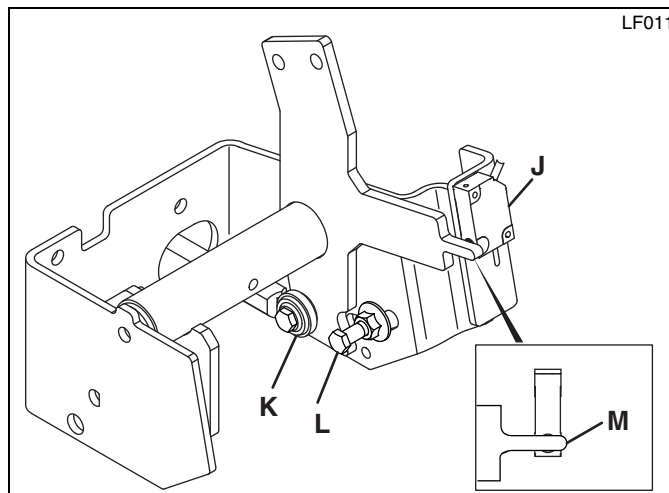

Figure 3K
4. Engage parking brake and set mow switch to neutral. Make sure neutral switch at traction pedal is closed. (Figure 3K - **M**). Distance between the switch and metal pointer "M" must be between 1/16 in. and 1/8 in. (1.5 and 3 mm).
6. Connect traction linkage. When connecting linkage at traction pedal, make sure pointer on traction pedal bracket is centered over neutral switch (**M** -Figure 3K).